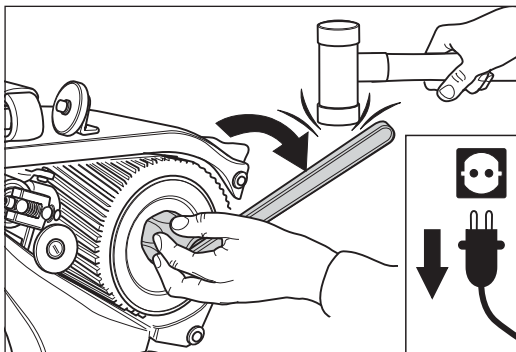

Fig. 48 Release the box nut (**left-hand thread**), if necessary by knocking gently with a soft hammer. **Never use a steel hammer!** Similar to figure.
- 5 Open the drum nut using the box wrench (see tool bag). Note that the drum nut has a **left-hand thread** (Fig. 48)! If necessary, take a soft hammer to help you loosen the nut. **Never use a steel hammer!**